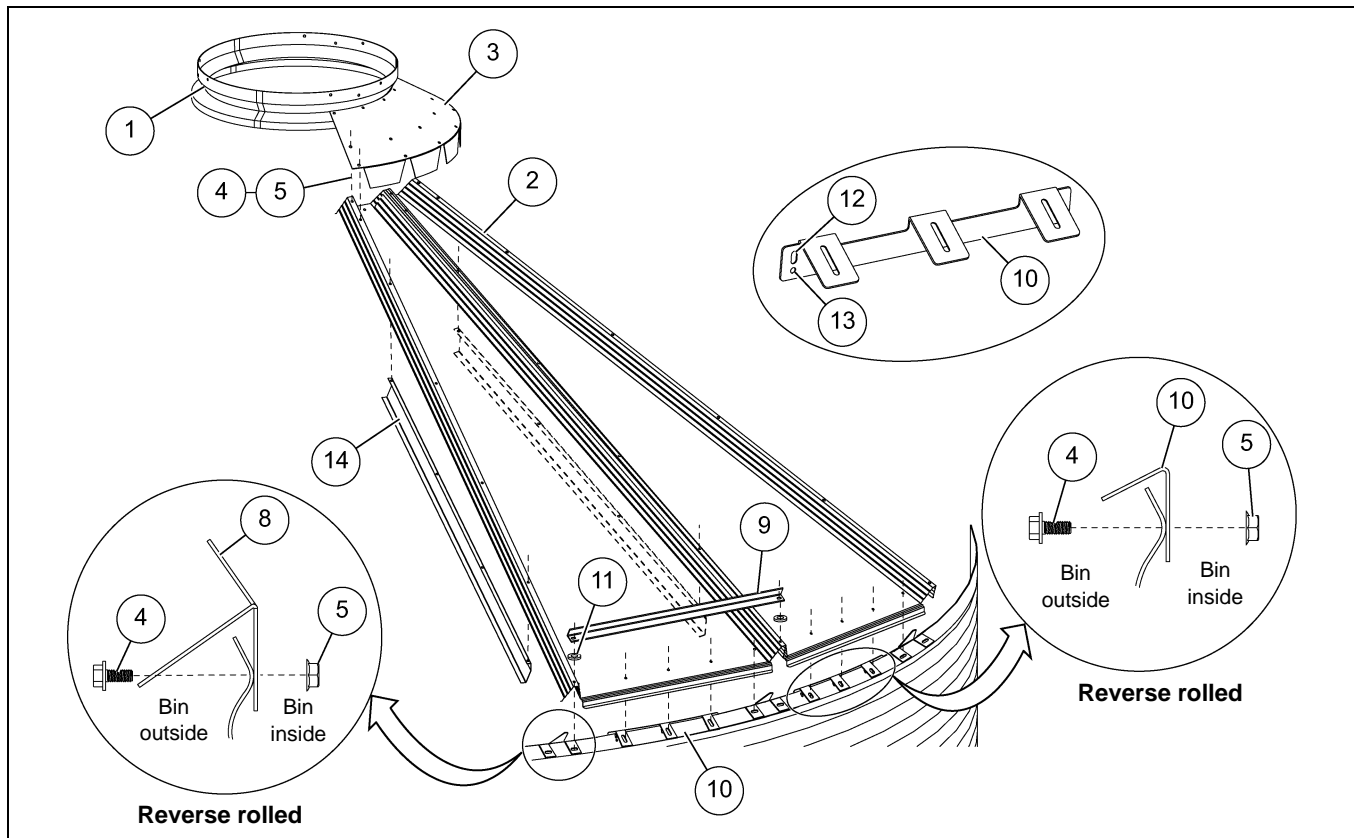

Figure 11C Roof Panel Assembly (For 24' Diameter Bins)
NOTE: For 24' diameter bins an additional roof channel (14) must be installed under the ribs of the roof panel where the roof steps are to be installed. Start the roof channel (14) assembly using the second hole in the roof panel (2) rib from the bottom (roof eave). (See Figure 11C.)